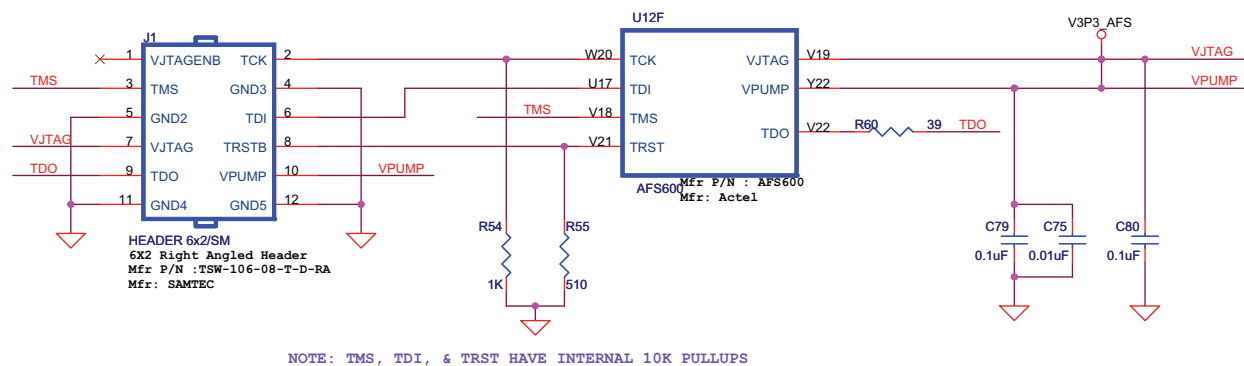

Figure 3-19 • JTAG Header Schematic for LCPS Connection
The LCPS programs the FPGA through the JTAG pins. Fusion devices have a separate bank for the dedicated JTAG pins. The JTAG pins can be run at any voltage from 1.5 V to 3.3 V (nominal). V_{CC} must also be powered for the JTAG state machine to operate, even if the device is in bypass mode; VJTAG alone is insufficient. Both VJTAG and V_{CC} to the Fusion part must be supplied to allow JTAG signals to transition the Fusion device. Isolating the JTAG power supply in a separate I/O bank gives greater flexibility with supply selection and simplifies power supply and PCB design. If the JTAG interface is neither used nor planned to be used, the VJTAG pin together with the TRST pin could be tied to GND. Refer to the schematic in Figure 3-19 on page 3-45.
1. Top signal layer (Figure 3-19 on page 3-45)